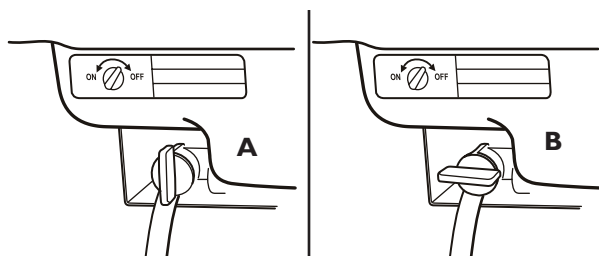

Figure 7 — Fuel Valve
2. Turn red fuel valve from “Off” position (A) to “On” position (B) (Figure 7).
4. Move fuel valve to “**Off**” position (**A**) (Figure 7).